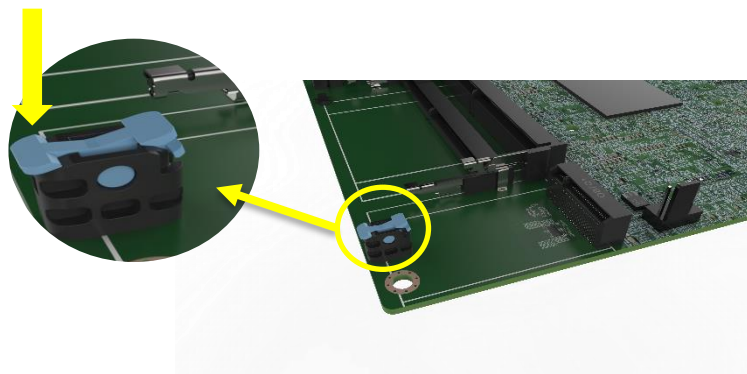

Figure 4-11: Press the Retainer
Step 1: Press the retainer down as shown below. (See **Figure 4-11**)
Step 5: If you want to remove the M.2 module, you should press the retainer down as described in Step 1 to release the M.2 module.. (See **Figure 4-11**)